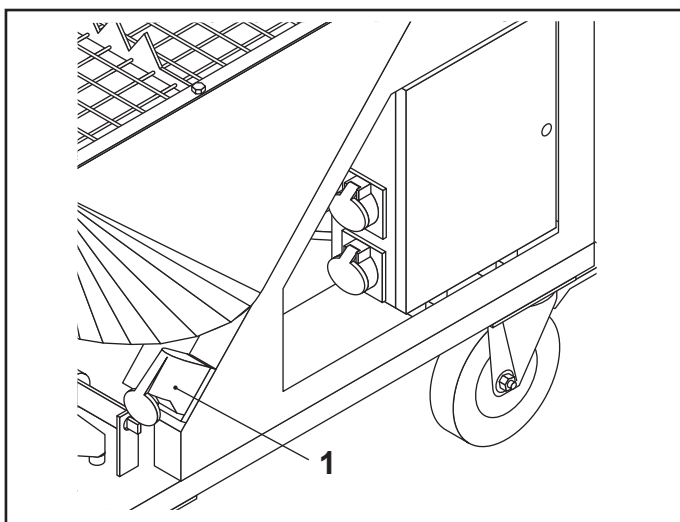

FIG.19
- Connect the power cable to the socket (FIG.19-REF.1) on the machine's frame.